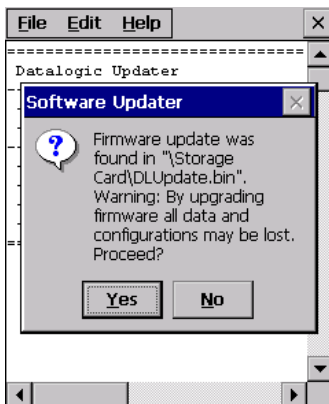

Figure 1
- The message shown in figure 1 will come up on the screen. It informs that **DLUpdater** found a firmware update in “**\Storage Card\DLUpdate.bin**”. It also warns the user that by proceeding with the terminal firmware upgrade all data and configurations (registry) may be lost. Select **<YES>** to continue, **<NO>** to cancel operations.